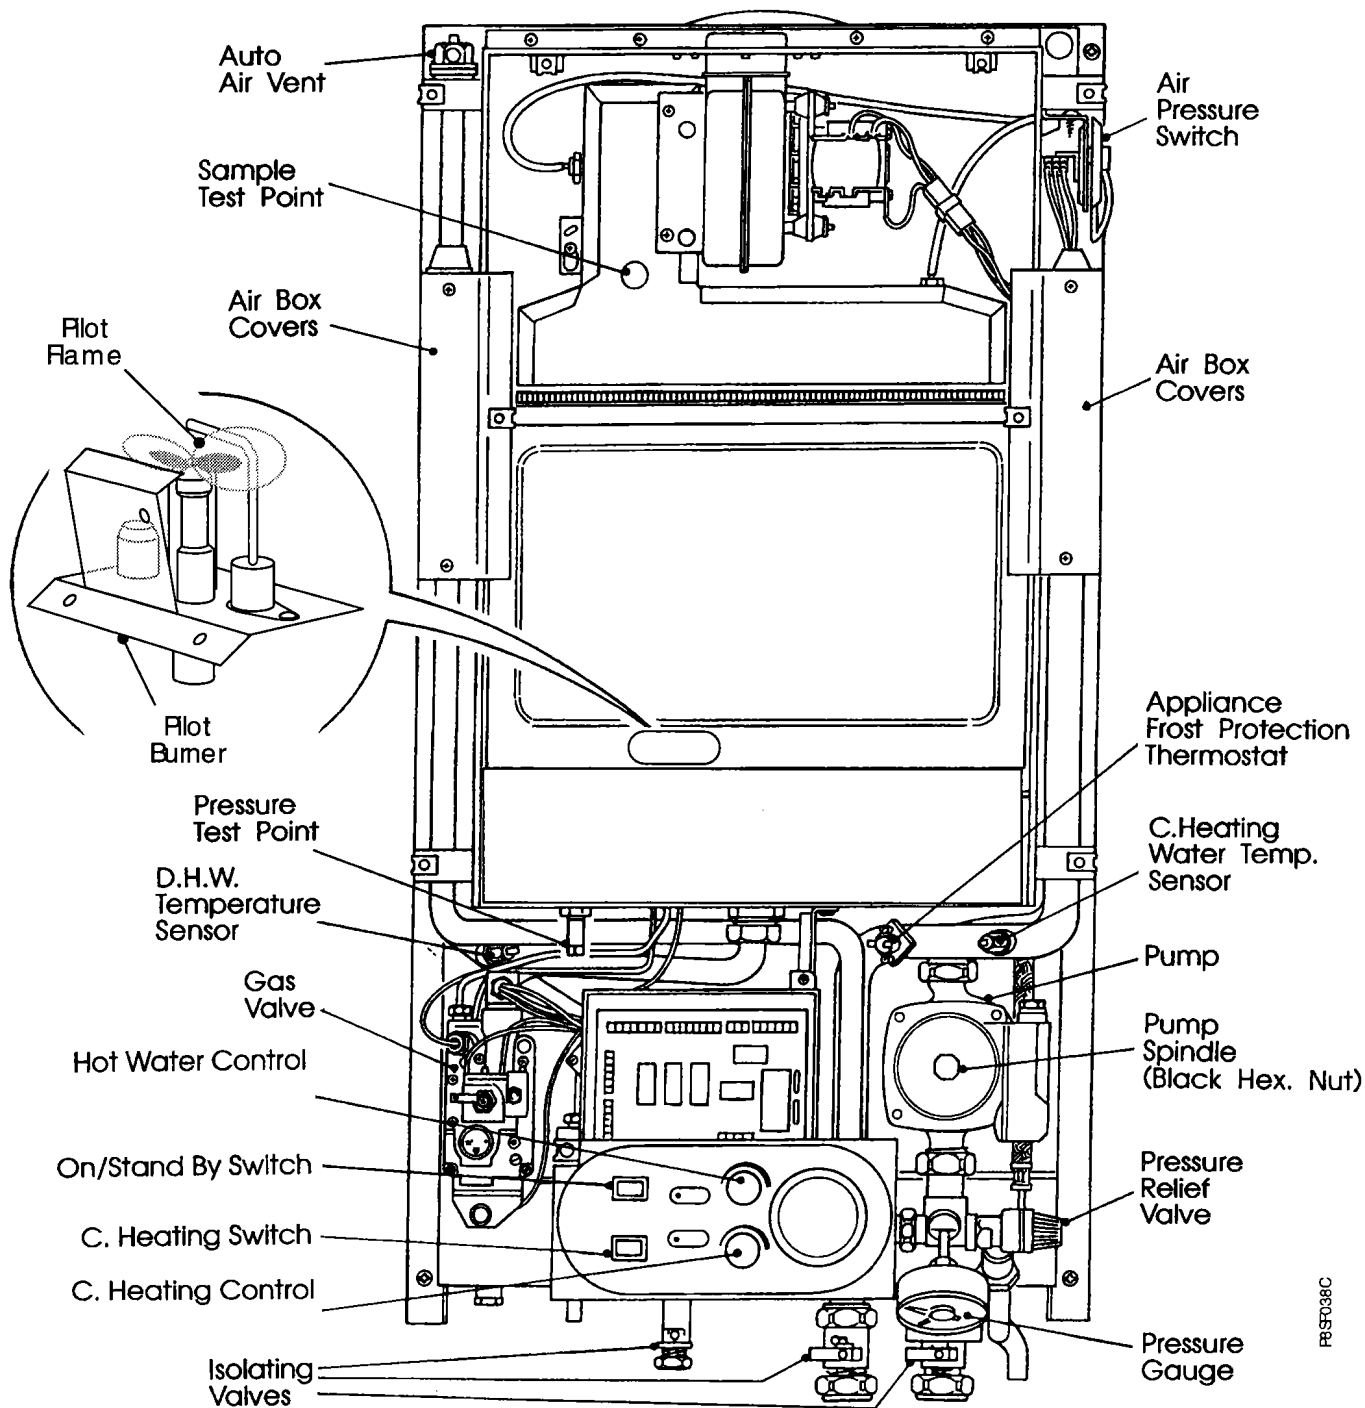

Fig 20
(Fig. 20)
- k) Loosen or remove the outlet (burner) pressure test point screw in the gas valve body (Fig. 29), and connect via a flexible tube to the + or Hi side of pressure gauge. Then connect the - or Lo side of pressure gauge via another flexible tube to the pressure test point in the base of the inner casing. (Fig. 20)